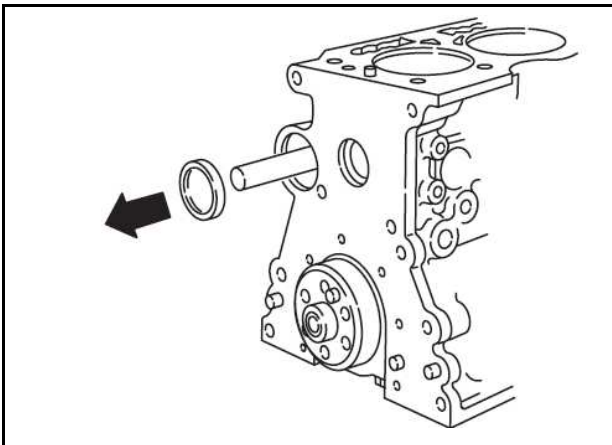

Fig.8-Removing Camshaft Plug
- 1 Remove rear camshaft plug, Fig.8.